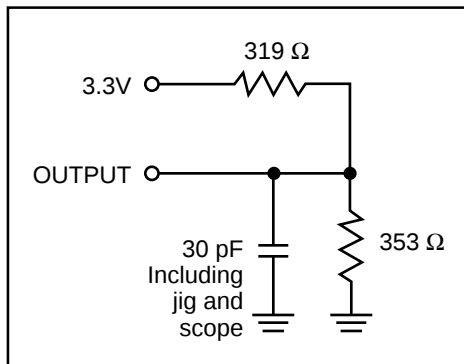

Figure 1.
1. Test conditions assume signal transition times of 3 ns or less, timing reference levels of 1.5V, input pulse levels of 0 to 3.0V and output loading specified in Figure 1.
| Output Load                                  | See Figures 1 and 2 |